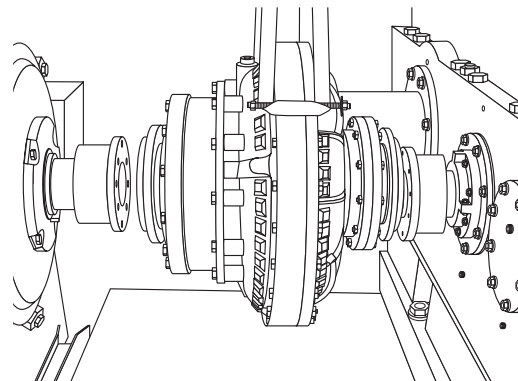

Figure 4
- Mount the fluid coupling as shown in Figure 4, the output adapter side of the coupling must be connected to the driven equipment. Attaching the output adapter side of the fluid coupling to the driver (usually a motor) will result in degraded performance, or in some cases inadequate performance.
- E. Position fluid coupling assembly between disc coupling hubs as close to the centerline as possible, Figure 4.